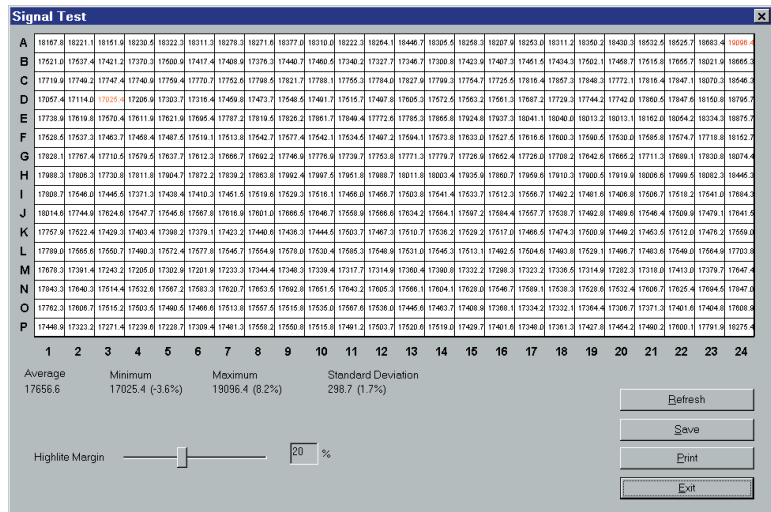

Figure E-2: The **Signal Test** dialog box.
- 5) Click the Light Bulb icon in the FLIPR tool bar to execute the signal test. (This can also be accomplished by selecting **Signal Test** from the **Run** menu.) The results will be displayed in the **Signal Test** dialog box (Figure E-2).